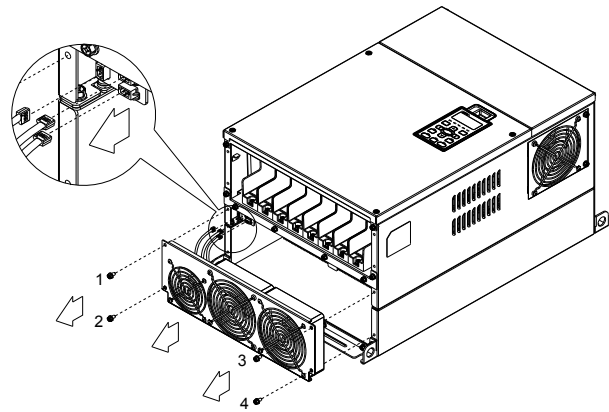

Figure 2
1. Loosen screw 1~4 (figure 2) and disconnect fan power and pull out the fan. (As shown in the enlarged picture 2) Screw1~4『Torque: 24~26 kg-cm / [20.8~22.6 lb-in.] / [2.4~2.5 Nm]』